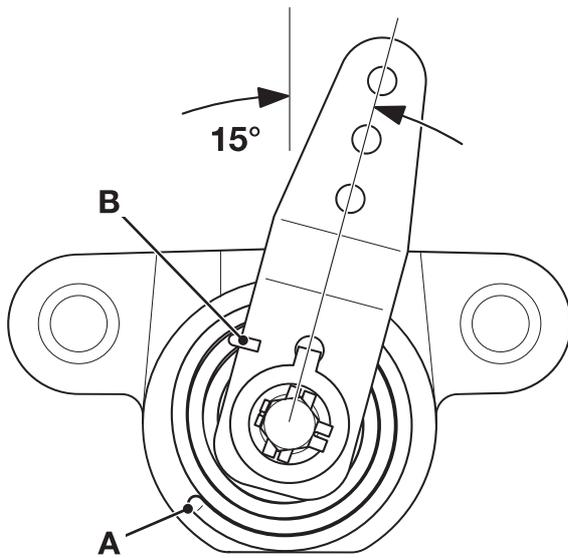

Fig 34.
- 8 Fit lever **33-6**. Align the lever to the mark made during dismantling. → Fig 34. \(□ G-35\).